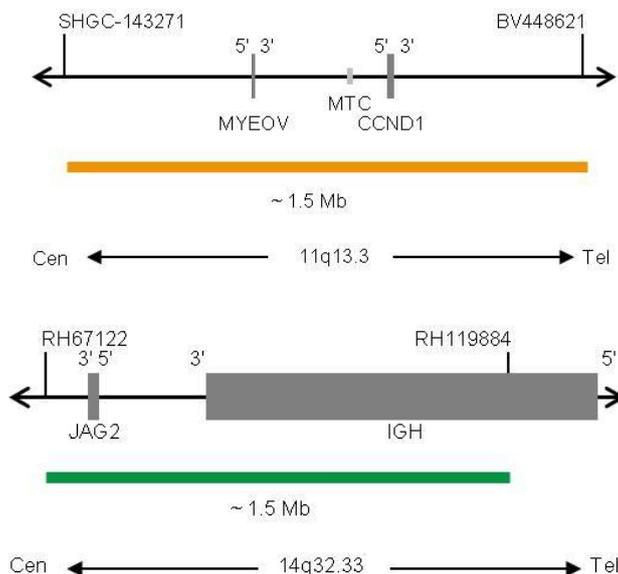

Fig. 1: Top: SPEC CCND1 Probe map; Bottom: SPEC IGH Probe map (not to scale)
- ZyOrange (excitation 547 nm/emission at 572 nm) labeled polynucleotides (~4.5 ng/μl), which target sequences mapping in 11q13.3\* chr11:68,522,105-70,031,240 (see Fig. 1).
- ZyGreen (excitation 503 nm/emission 528 nm) labeled polynucleotides (~10.0 ng/μl), which target sequences mapping in 14q32.33\* chr14:105,462,169-106,995,000 (see Fig. 1).